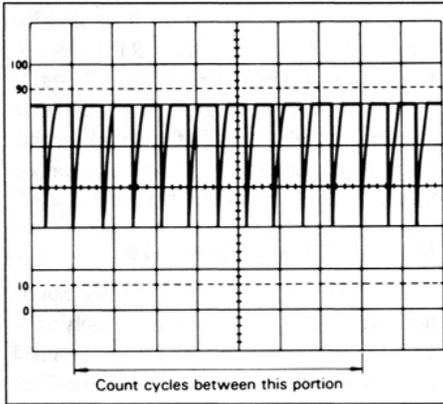

Fig. 29. Alternate method of frequency measurement.
(Refer to Fig. 29)
2. Count the number of cycles of waveform between a chosen set of vertical graduation lines (see Fig. 29).
For the example shown in Fig. 29, there are 10 cycles within 7 divisions. If the Time/Div control setting is 5 mS and magnification is not used, the frequency is calculated as follows: